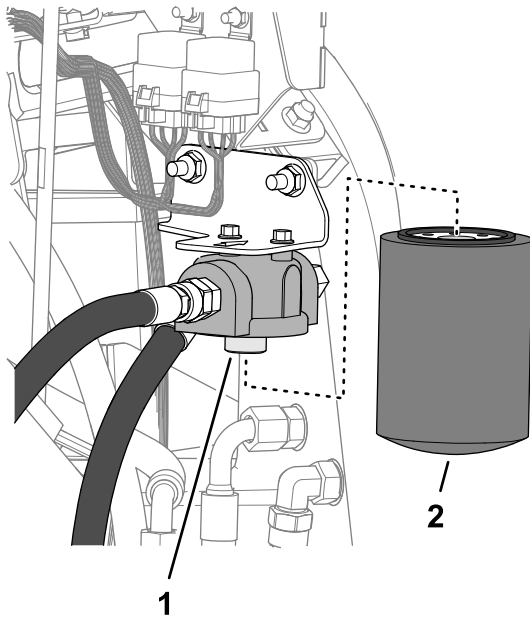

Figure 94
4. Remove the filter from the filter head (Figure 94).